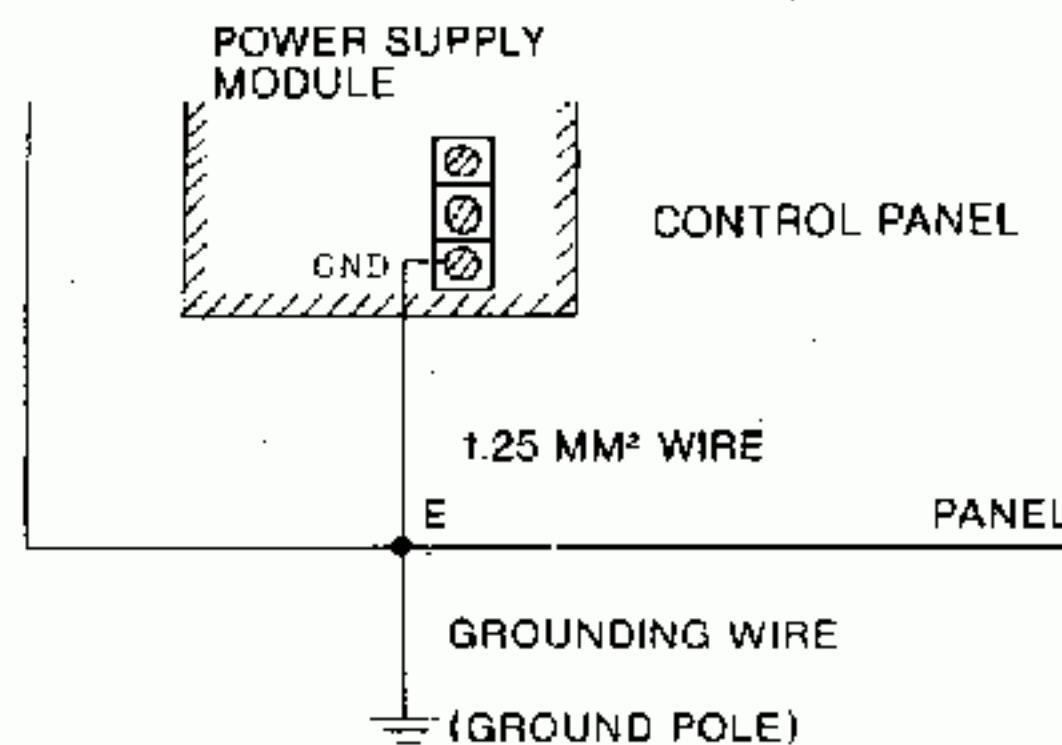

Fig. 6.6 Grounding Wire
- The GND terminal of the power supply module should be connected to the control panel housing, as shown in Fig. 6.6 at E, and connecting point E should be connected to a ground pole.